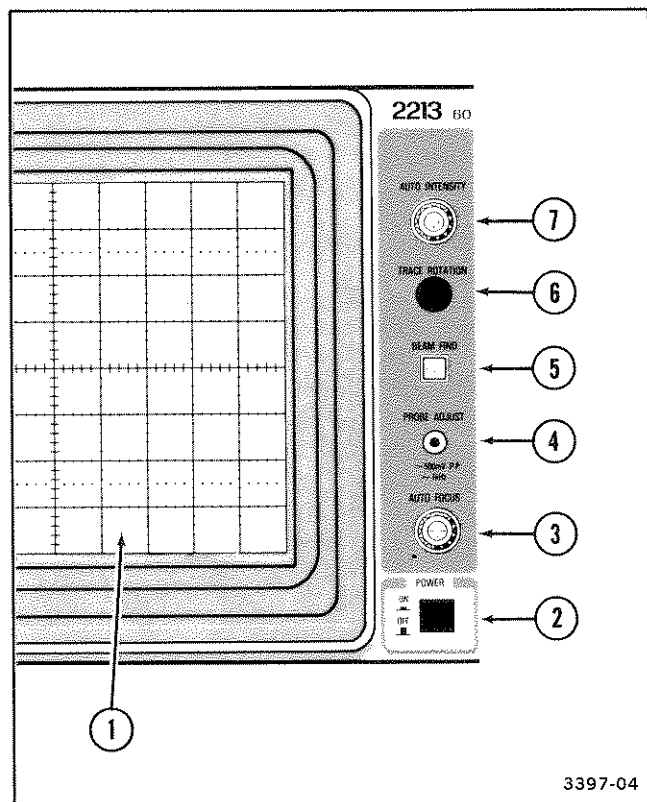

Figure 3. Power, display, and probe adjust controls, connector, and indicator.
Refer to Figure 3 for location of items 1 through 7.
- ① **Internal Graticule**—Eliminates parallax viewing error between the trace and graticule lines. Rise-time amplitude and measurement points are indicated at the left edge of the graticule.
- ② **POWER Switch**—Turns instrument power on and off. Press in for ON; press again for OFF.
- ③ **AUTO FOCUS Control**—Adjusts display for optimum definition. Once set, the focus of the crt display will